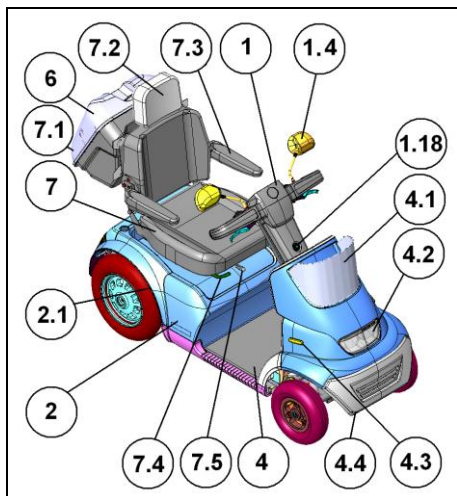

Figure 1
**Note:** The numbers in parentheses refer to the parts illustrated on Figure 1+2+3.